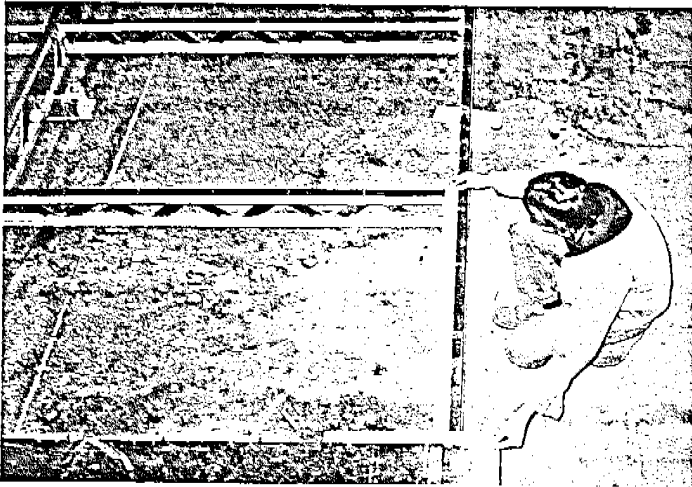

FIGURE 5
1. **PROCEED TO ERECT** first 14' section of framework. Use T square to align end purling and keep it square with deck. (See Figure 5).